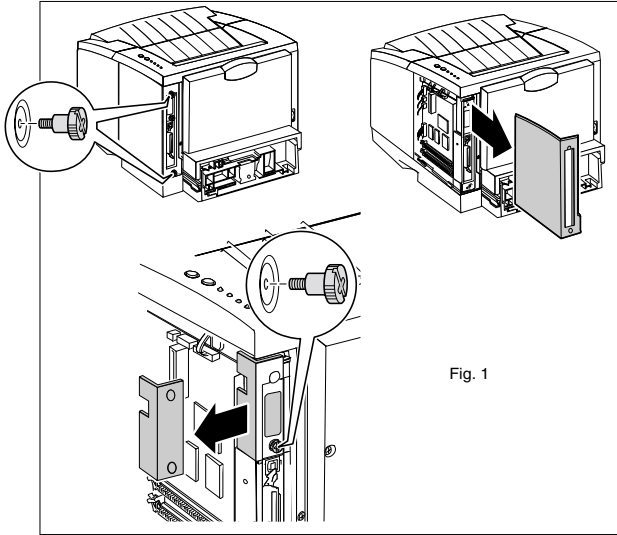

Fig. 1
3. Remove two screws securing the System Controller Board Cover and remove the cover (Fig 1).
2. Remove the two thumb screws from the System Controller Board Cover and remove the cover (Fig 1).
3. Remove the thumbscrew and plate from the System Controller Board bracket (Fig 1).